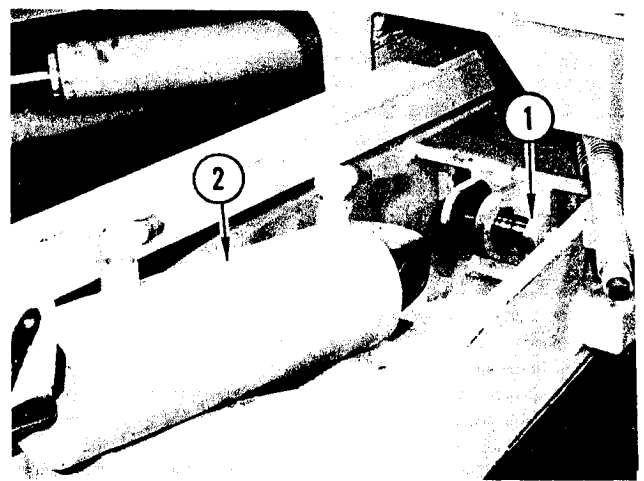

FIGURE 9. TILT CYLINDER REMOVAL
Refer to Figure 9. Remove hex nut and lockwasher from anchor pin (1). Remove anchor pin. Remove tilt cylinder (2) from front axle.